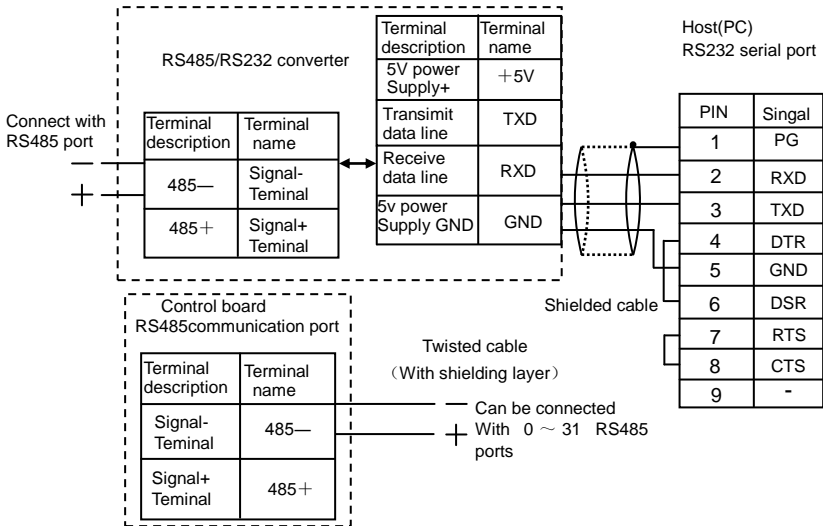

Figure 3-3 Connection of serial communication port
3. Connection of serial communication port is shown in Figure 3-3.